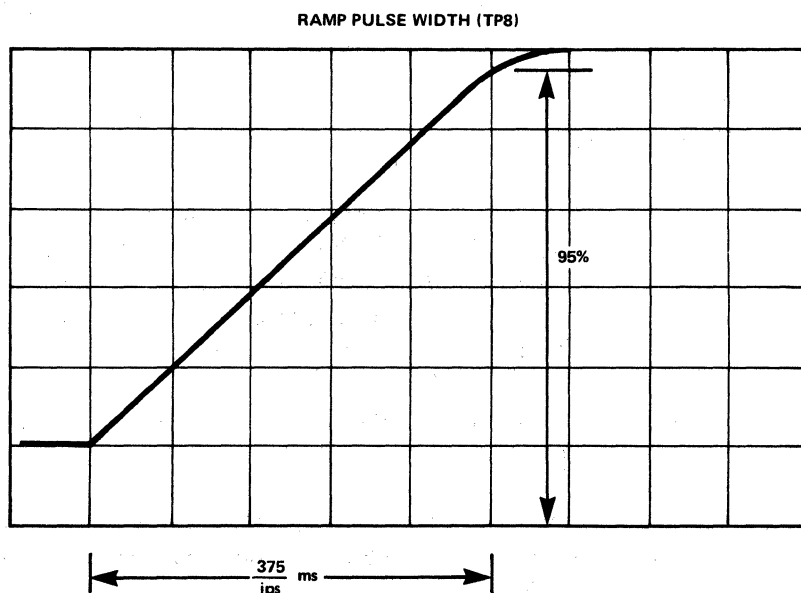

Figure 5-2. Forward Ramp Waveform
- b. Initiate a forward-stop tape sequence using either the Tape Transport Exerciser or maintenance switch SW1. Observe the oscilloscope display (see figure 5-2).